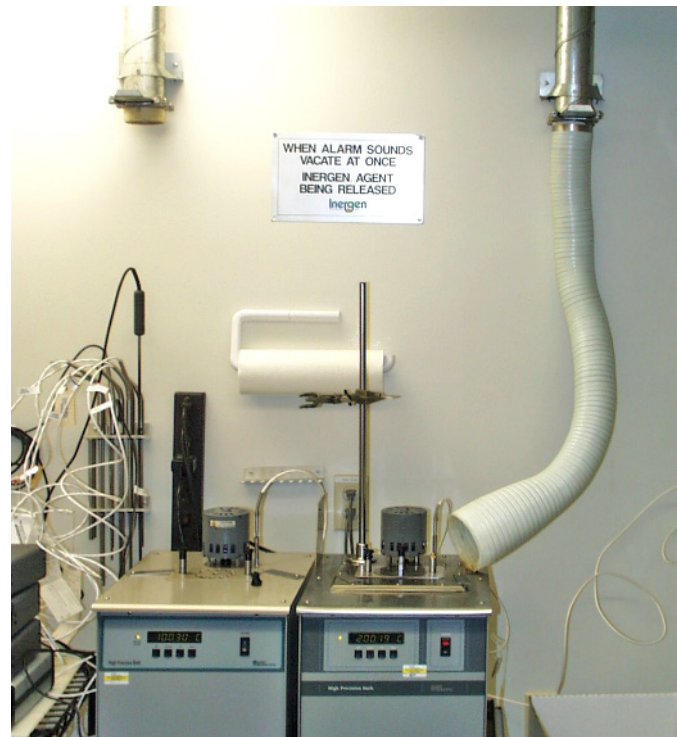

Figure 1 Ventilation system for removing oil vapors.
4. Use adequate ventilation for fluids at elevated temperatures. (See Figure 1).